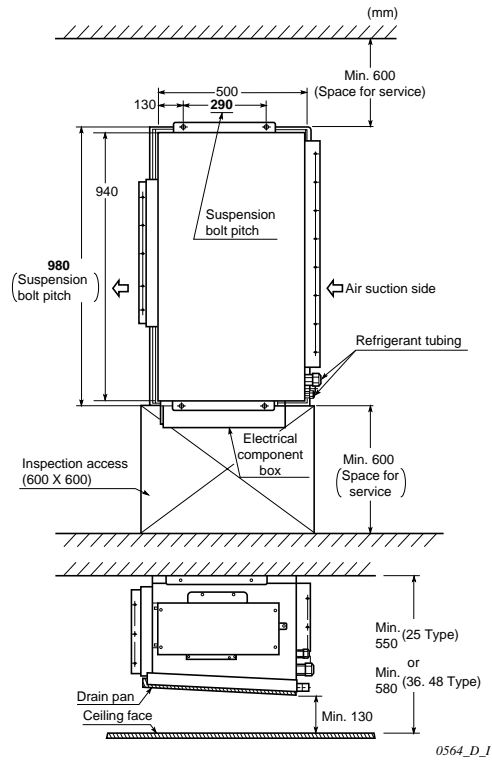

Fig. 3-96
- The minimum space for installation and service is shown in Fig. 3-96.
- (1) When placing the unit inside the ceiling, determine the pitch of the suspension bolts referring to the dimensional data on the previous page. (Fig. 3-96, 97)